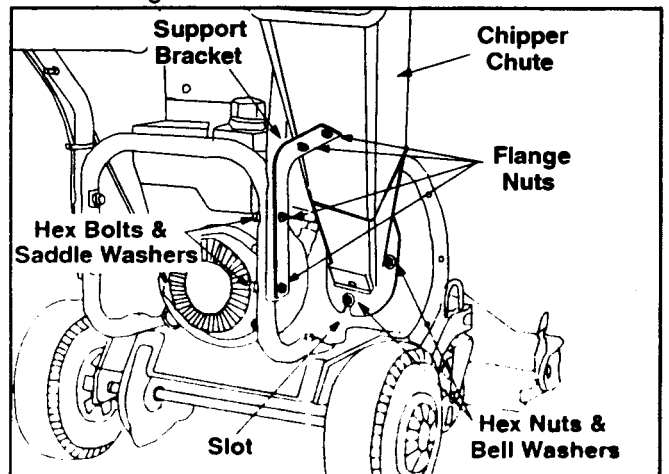

Figure 5
- Place the chipper chute over the weld studs keeping the slotted side towards the bottom. Loosely secure with the three hex nuts and bell washers that were removed earlier. Do not fully tighten the hex nuts at this point in the assembly. See Figure 5.
- Replace the hex bolts, saddle washers and flange nuts to affix the support bracket to the handle assemblies. See Figure 5.